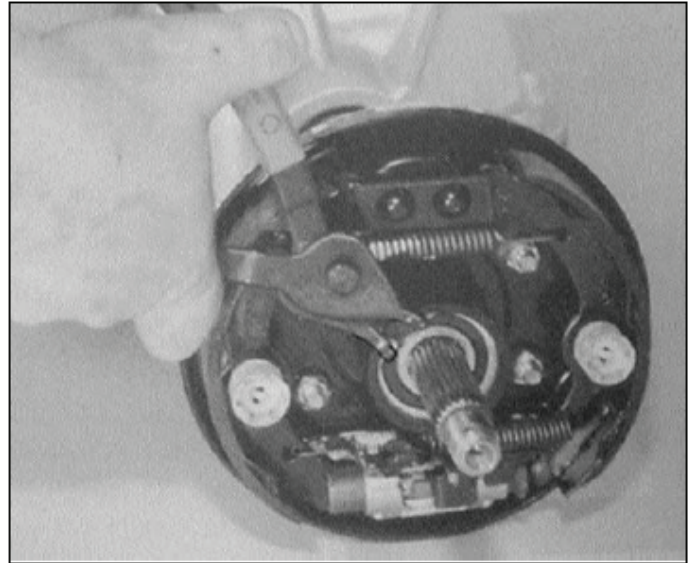

Figure 7-9. Removing Outer Snap Ring
1. Remove cotter pin (41), axle nut (40) and flat washer (38) from end of axle shaft (22, 23).
2. Remove outer snap ring (27). See Figure 7-9.